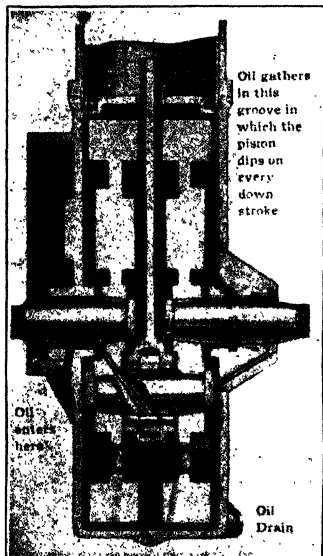

Fig. 34. Excelsior Lubricating System
**Lubrication. Path of Oil.** A lubricating system, as used on the Excelsior motorcycle motor, is shown in Fig. 34, and gives the particularly neat method by which motors of this type are oiled. In this case, the oil is first fed to the main bearing on the cam-case side, as shown by the arrow. This oil is fed by pressure from a pump and, after covering this bearing, is forced out at the end and flows through the drill hole shown, which brings it out above by centrifugal force to the connecting-rod bearing. This bearing throws the excess oil out, splashing it in all directions and up through the slot through which the connecting rod runs. From here it runs out on either side and gathers in a groove at the bottom edge of the cylinder. The bottom of the piston drops into this trough of oil every time it comes down, thus carrying the even film with it up the walls of the cylinder. The excess oil flows down the side of the crankcase and feeds the right-hand bearing. Excess from here is caught on the outer end of the shaft and returned to the crankcase, where it is splashed up again into the motor for further use.